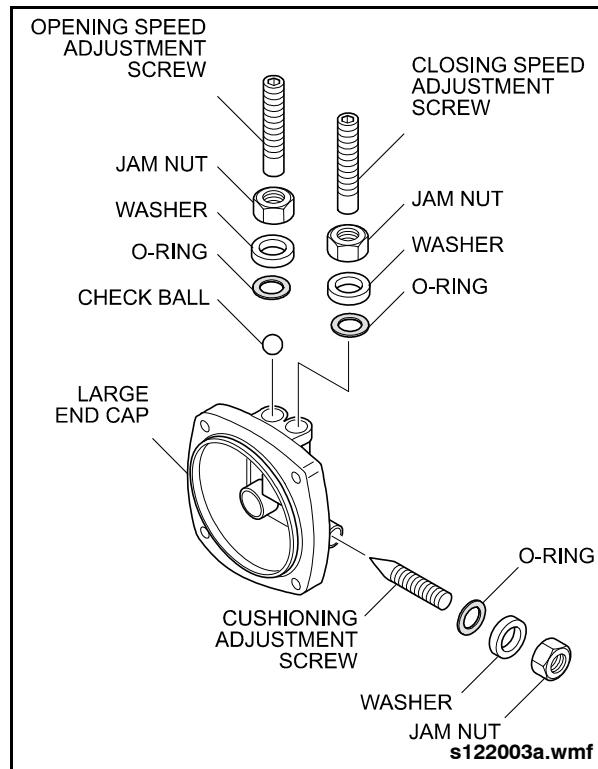

Fig. 16-11: Adjustment Screw Location
10. Remove the jam nuts, washers, and O-ring seals from the speed and cushioning control screws. Do not remove the adjustment screws. See "Fig. 16-11: Adjustment Screw Location" on page 21.